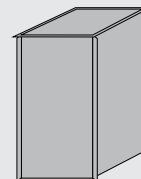

Fig 3c
- Pin and baste **HANDLE** to top edges, centered on either side, tucking it *inside* body. {Fig 3c}